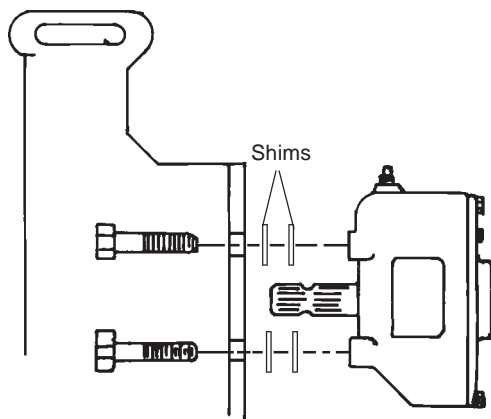

FIGURE 15
**IMPORTANT:** If extension shaft does not line-up with Gearbox, it may be necessary to shim gearbox mounting lugs. To accomplish this, insert one gearbox retaining bolt (Figure 15) thru the mount plate and into the gearbox housing. Do not tighten this bolt (it should have at least 1/4" free threads to move in and out). Assemble the gearbox, shaft, shaft extension tube and the bearing to the bearing retainer plate mounted on the side sheet. Tighten all fasteners except the one bolt in the gearbox mounting plate. Check the distance between the gearbox mounting lugs and the mount plate. If required, insert shims from shim kit (P/N 000552) between gearbox mounting lugs and mounting plate to insure the gearbox pulls up evenly on the mounting plate.